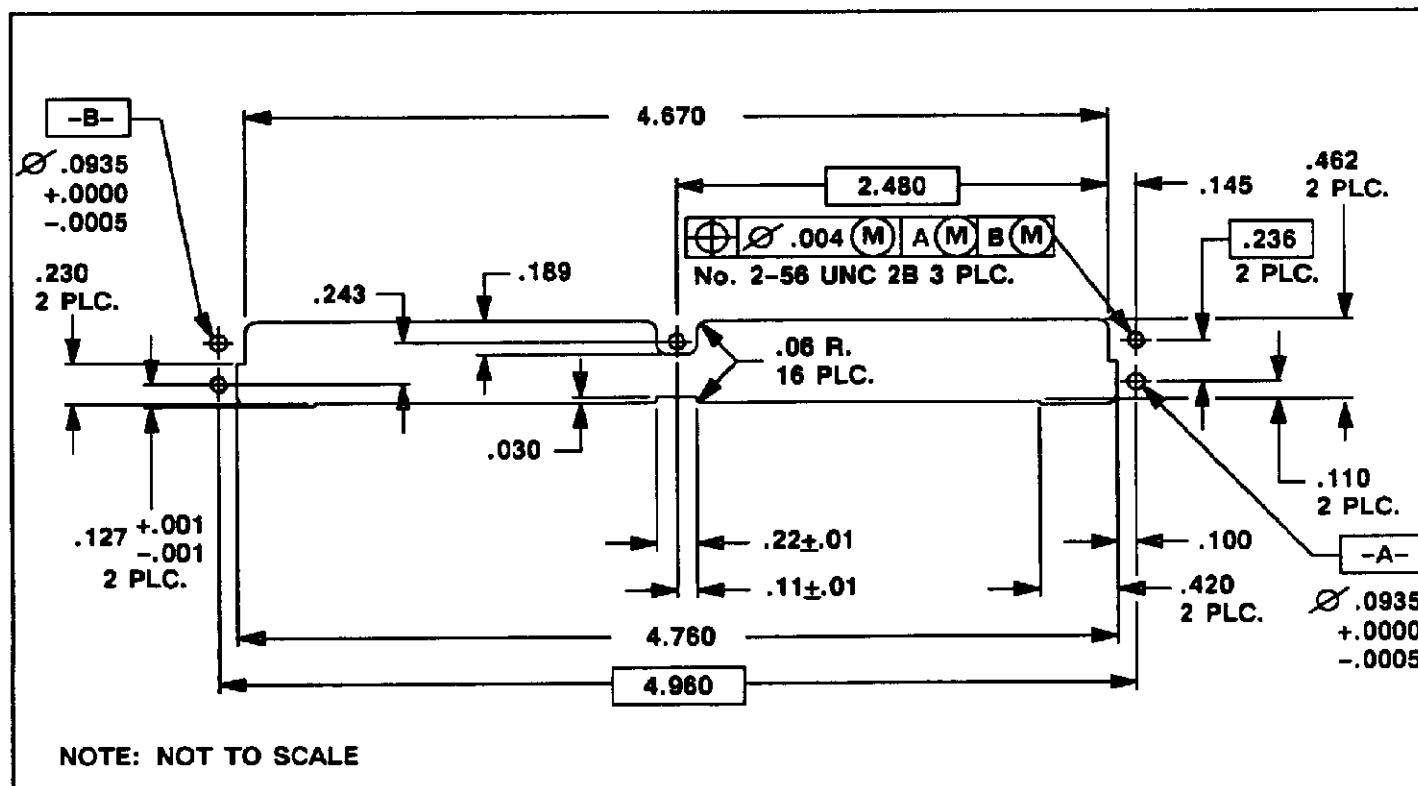

Fig. 3
The support plate of the motherboard must be cut out and drilled to the dimensions shown in Figure 3. The guide pins are installed as follows:
2. Using a customer-supplied insertion fixture (such as an arbor press capable of applying 250 lbs of pressure), press the guide/ground pins straight (perpendicular within $\pm .002$ from center) into the indicated holes (see Figure 3) of the motherboard until the larger diameter of the pin is bottomed on the board surface.